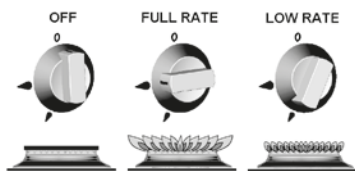

Fig. 1
- To light: Push in the control knob and turn to full rate – see Fig.1. Hold a lighted match or taper to the burner and push the control knob in and hold. It is necessary to hold the knob depressed after the burner has ignited for approximately 10 - 15 seconds, to allow the thermocouple probe to reach temperature, before releasing the knob. Should the flame go out when the knob is released, the procedure should be repeated holding the knob depressed for slightly longer.
2. To light: Open door, push in the control knob and turn to full rate – see Fig 1 (page 132). Hold a lighted match or taper to the burner and push the control knob in and hold. The burner should ignite and the control knob should be held in for 10 -15 seconds before release.